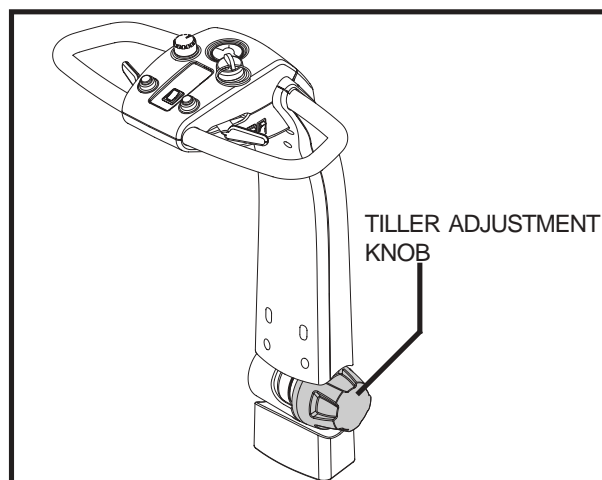

Figure 14. Tiller Adjustment
1. While supporting the tiller, turn the tiller adjustment knob anticlockwise to loosen the tiller. See figure 14.